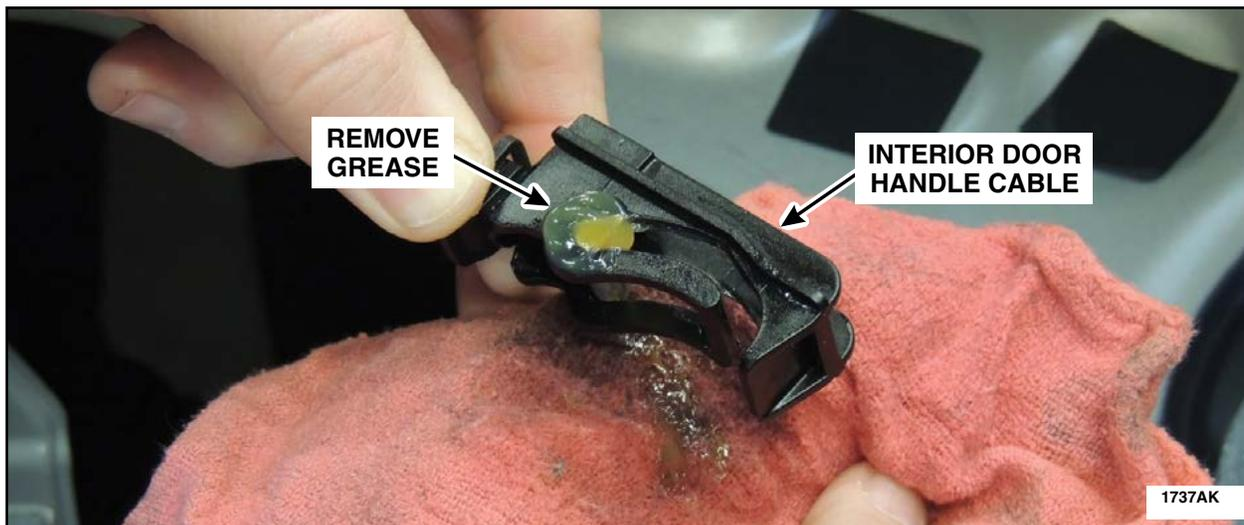

FIGURE 40
10. Using isopropyl alcohol and a clean shop towel, thoroughly remove grease from the interior door handle cable mechanism. See Figure 40.